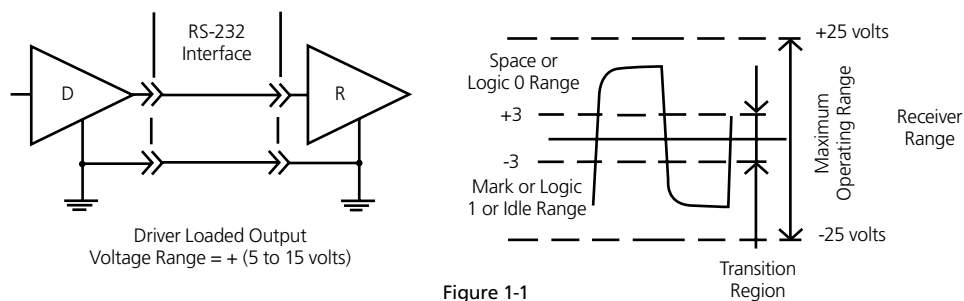

Figure 1-1
Each signal that transmits in an RS-232 unbalanced data transmission system appears on the interface connector as a voltage with reference to a signal ground. For example, the transmitted data (TD) from a DTE device appears on Pin 2 with respect to Pin 7 (signal ground) on a DB25 connector. This voltage will be negative if the line is idle and alternate between that negative level and a positive level when data is sent with a magnitude of ± 5 to ± 15 volts. The RS-232 receiver typically operates within the voltage range of +3 to +12 and -3 to -12 volts as shown in Figure 1-1.